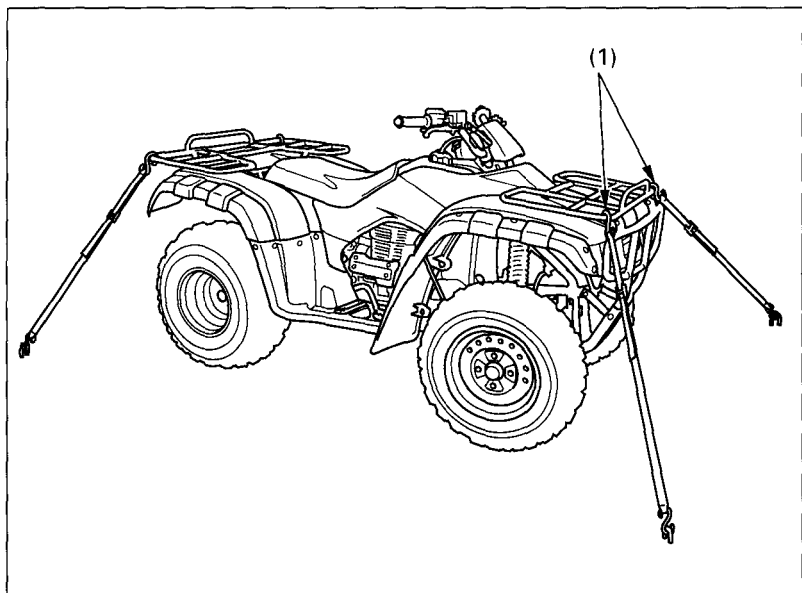

Fig. 4-42 Points to secure
3. Secure the vehicle with "tie downs" in the areas shown (Fig. 4-42). Suitable "tie downs" are available from your Honda dealer. Ordinary rope is not recommended because it can stretch under load.